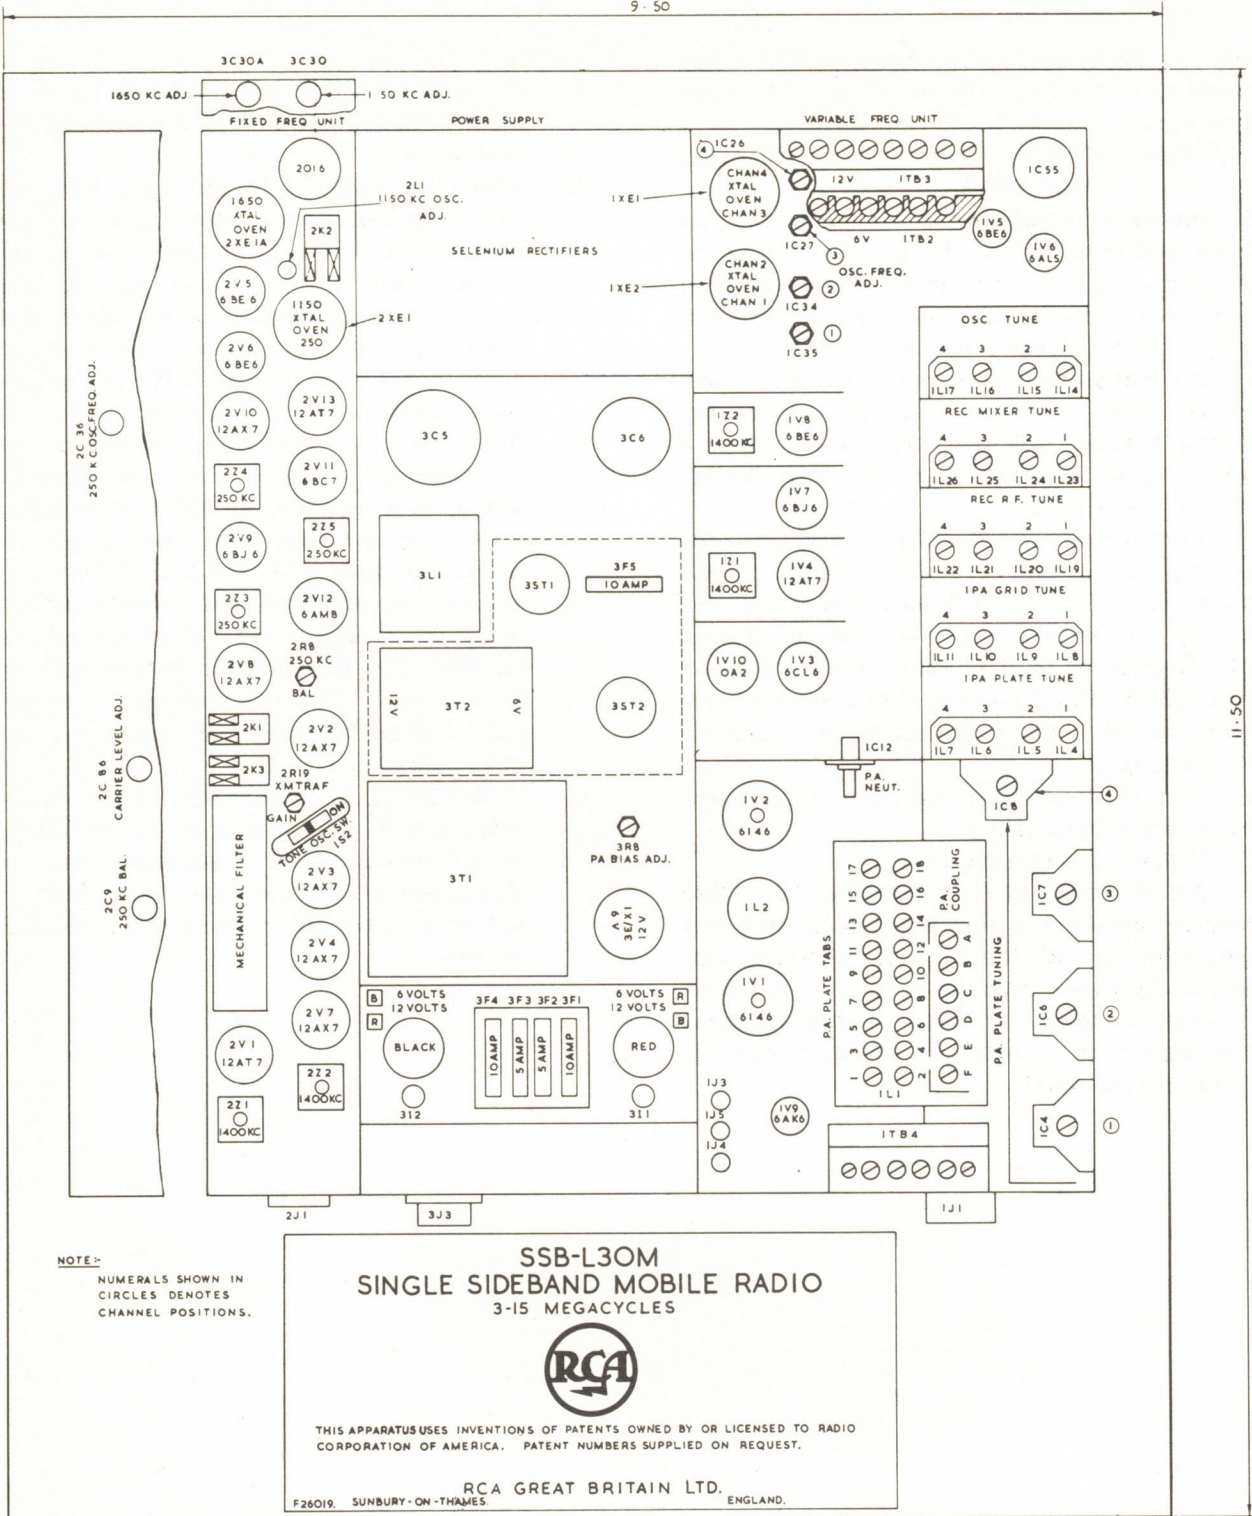

Figure 9. Component Layout.
1. All alignment and adjustment to be done with unit in cabinet, but with top cover removed. Location of all tuning adjustment shown on under side of top cover and in Figure 9.
5. Connect coupling taps to minimum coupling - (A).